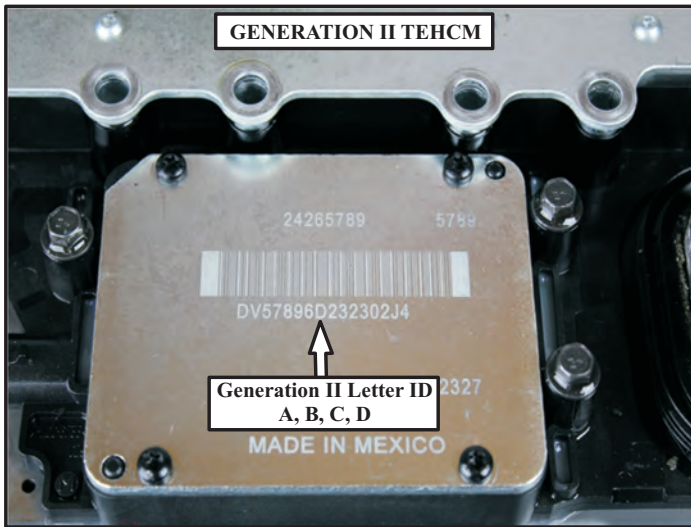

Figure 19
- (13) The Generation III TEHCM has new identification letters as compared to the Generation II (figures 19 and 20).